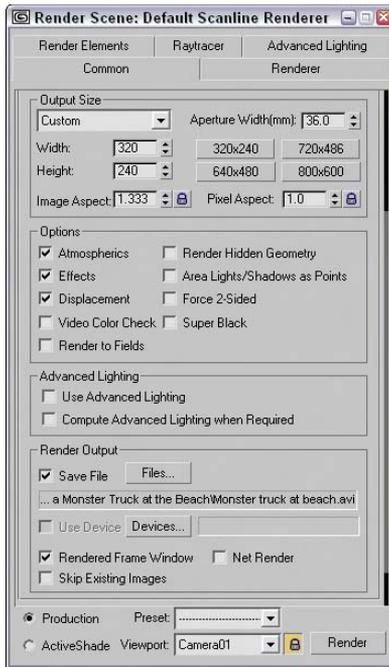

Figure QS-13: The Render Scene dialog box includes many diverse rendering settings.
1. Open the Render Scene dialog box, shown in Figure QS-13, by choosing Rendering ⇄ Render (or by pressing F10).